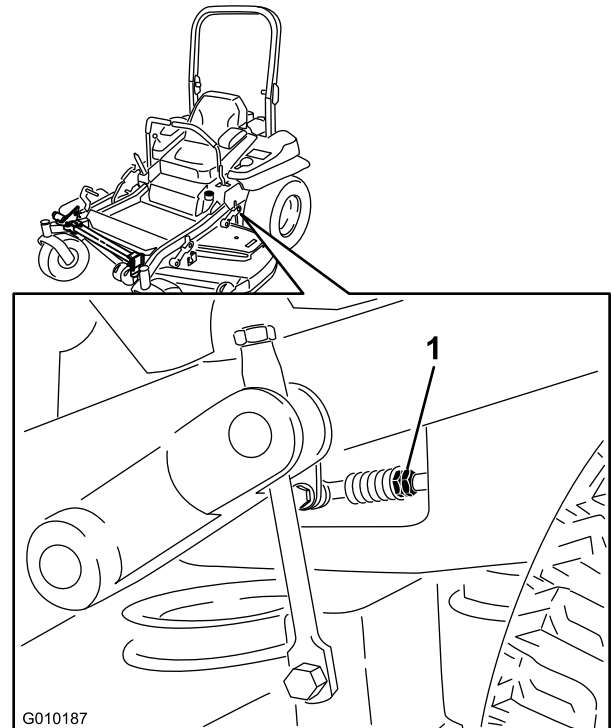

Figure 97
10. Adjust the pump-control-rod lengths by rotating the double nuts on the rod in the appropriate direction until the wheels slightly creep in reverse (Figure 97).